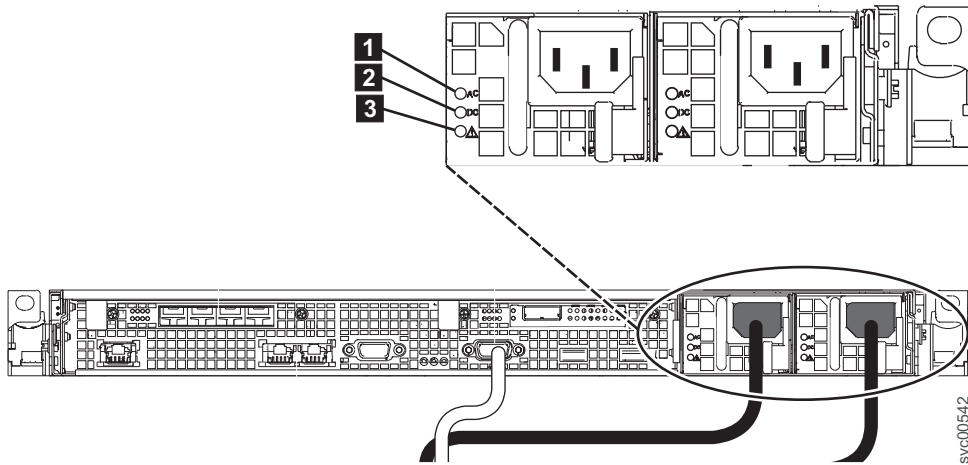

Figure 154. SAN Volume Controller 2145-CG8 or 2145-CF8 ac, dc, and power-error LEDs
5. To the left of the power-cord connector on each power supply, verify that the ac power LED, as shown by **1** in Figure 154 on page 163, and the dc power LED (**2**) are lit.